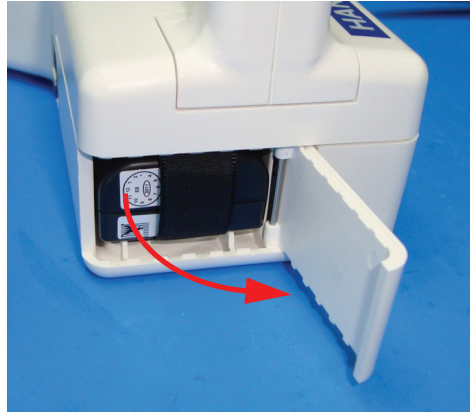

Figure 3-10 Open Battery Compartment Door
2. Swing the battery compartment door open as shown in Figure 3-10.